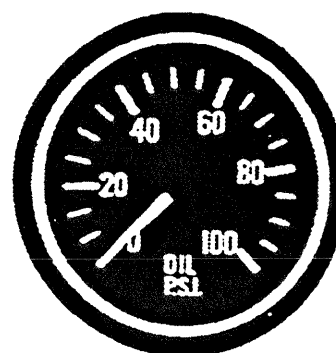

Fig. 3-6 Engine Oil Pressure Gauge
6. Engine Oil Pressure Gauge See Fig. 3-6